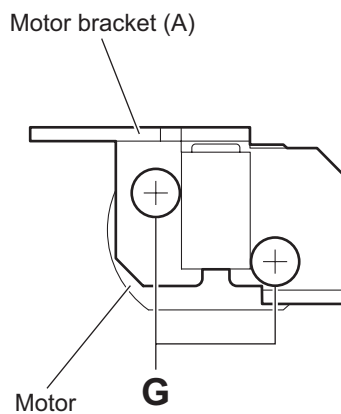

Fig.13
- (4) Remove the two screws **G** attaching the motor and remove the motor from the motor bracket (A). (See Fig.13.)